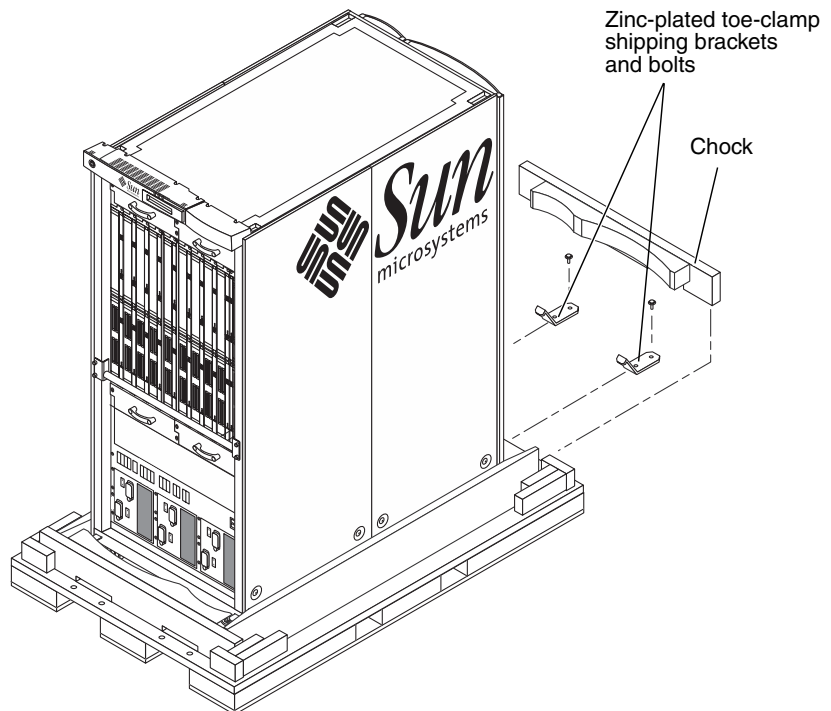

FIGURE 6-4 Cabinet on Shipping Pallet Deck
d. Locate two zinc-plated toe-clamp shipping brackets and four bolts (FIGURE 6-4).